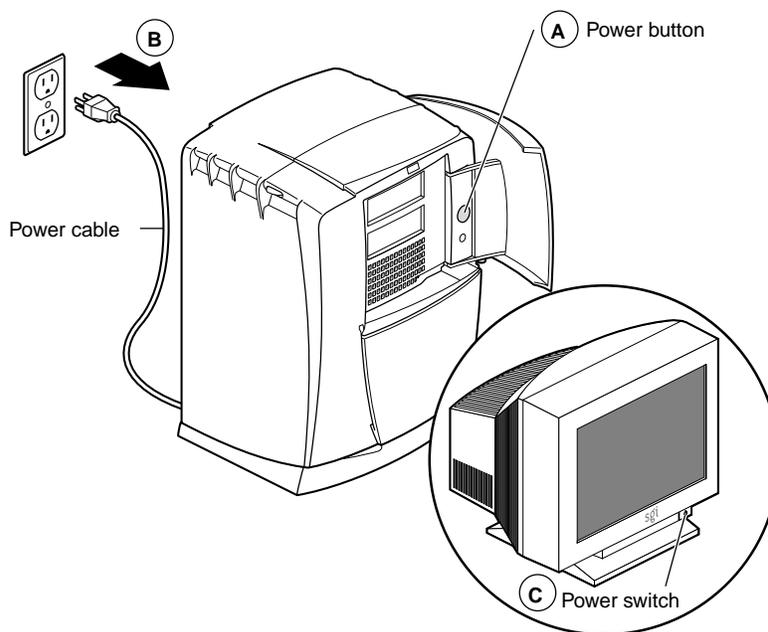

Figure 4-3 Powering Off the Octane2 Workstation
1. Open the cover and press the power button (see A in Figure 4-3).
2. Unplug the power cable from the electrical outlet (B).
3. Press the monitor power switch to turn off your monitor (C).